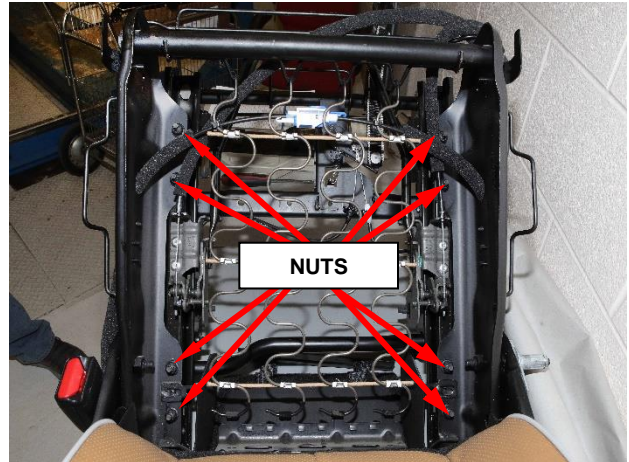

Figure 18 – Nuts
12. Remove the eight nuts (four each side) securing the seat cushion frame to the seat riser (Figure 18).
3. Install the eight nuts (four each side) securing the seat cushion frame to the seat riser, then tighten the nuts to 25 N·m (18 ft. lbs.) (Figure 18).